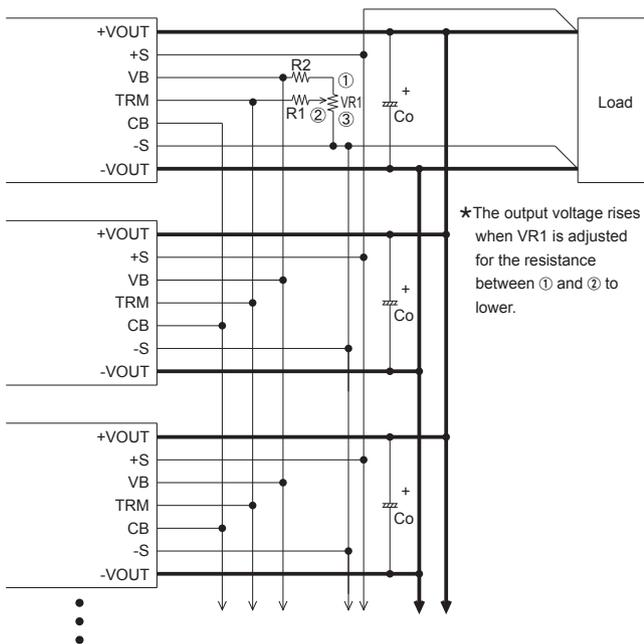

Fig.4.2 Examples of parallel operation
■Parallel operation is available by connecting the units as shown in Fig.4.2.